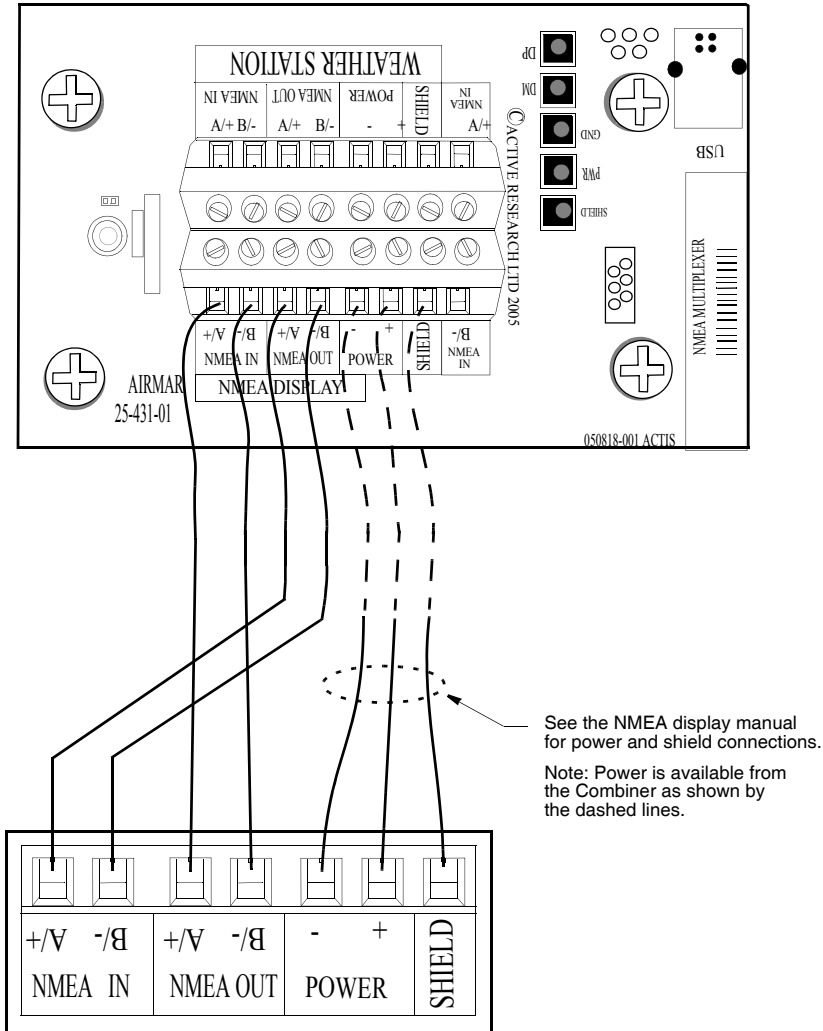

Figure 10. Wiring diagram to connect an NMEA display
10. Connect each wire in turn into the designated NMEA Display terminal. Loosen the screw, insert the stripped end of the wire into the square hole, and retighten the screw. *Be sure the stripped end of the wire is inserted up to its insulation only. Do not include any insulation inside the terminal.* Gently tug on the wire to ensure that it is securely fastened. Repeat this process until all the wires are connected. Refer to the owner's manual that came with the display/sensor and the wiring diagram below (see Figure 10).